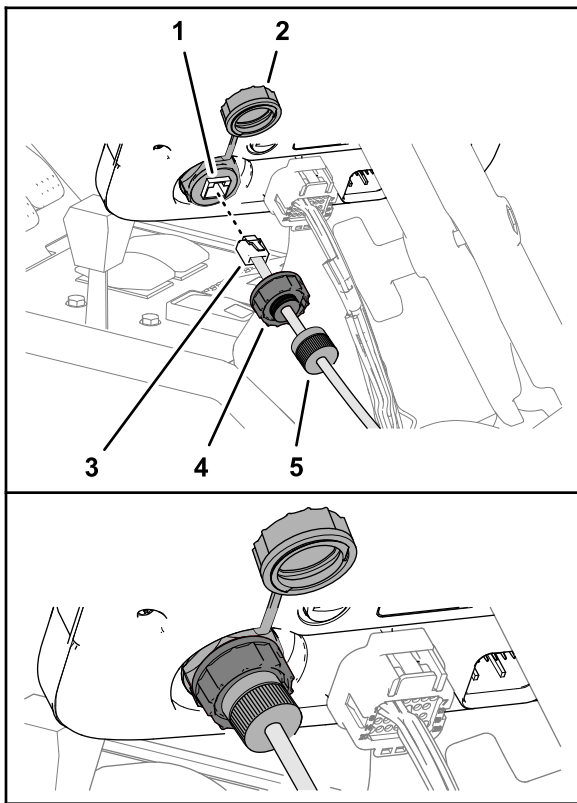

Figure 61
2. At the front of the sprayer display, remove the cap from the RJ45 port (Figure 61).
3. Plug the RJ45 connector of the modem data cable labeled X-CONSOLE into the RJ45 port of the sprayer display (Figure 61).
4. Assemble the port seal nut over the RJ45 port of the sprayer display, and tighten the seal nut (Figure 61).
5. Assemble compression nut over port seal nut, and tighten the compression nut (Figure 61).